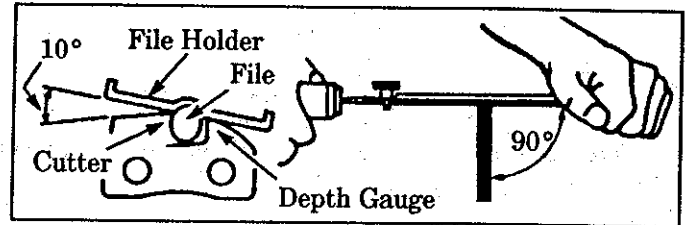

Figure 28
- a.) Position the file holder level at a 10° angle on the top plate of the cutter and depth gauge. Figure 28.